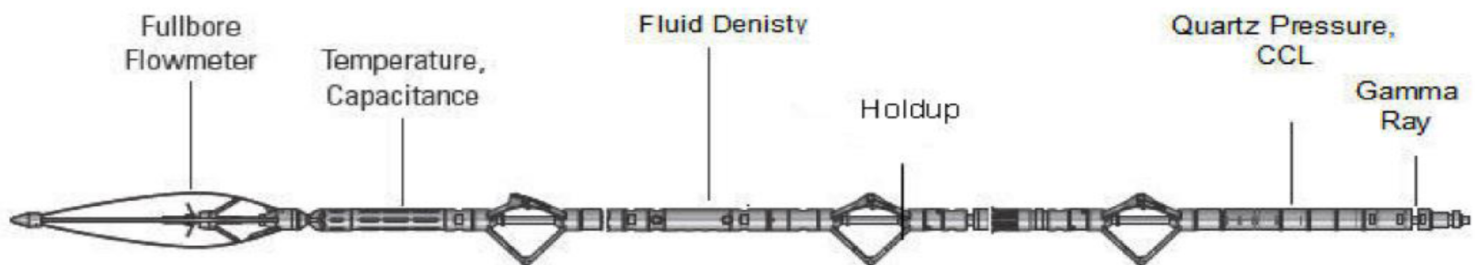

Figure 3—Gen 1 Production Logging Technology (Heddlestone, 2009)
A Generation 1 (Gen 1) version PLT platform as shown on figure 3, measures the environment within the pipe diameter. The Gamma Ray (GR) tool shows the types of formation the lateral is located in, and also if the well has been traced with a frac sand trace material. The CCL locates all the casing collars, the Temperature shows the temperature profile across the producing interval and can be converted into a derivative temperature, shedding more detail on the inflow locations.